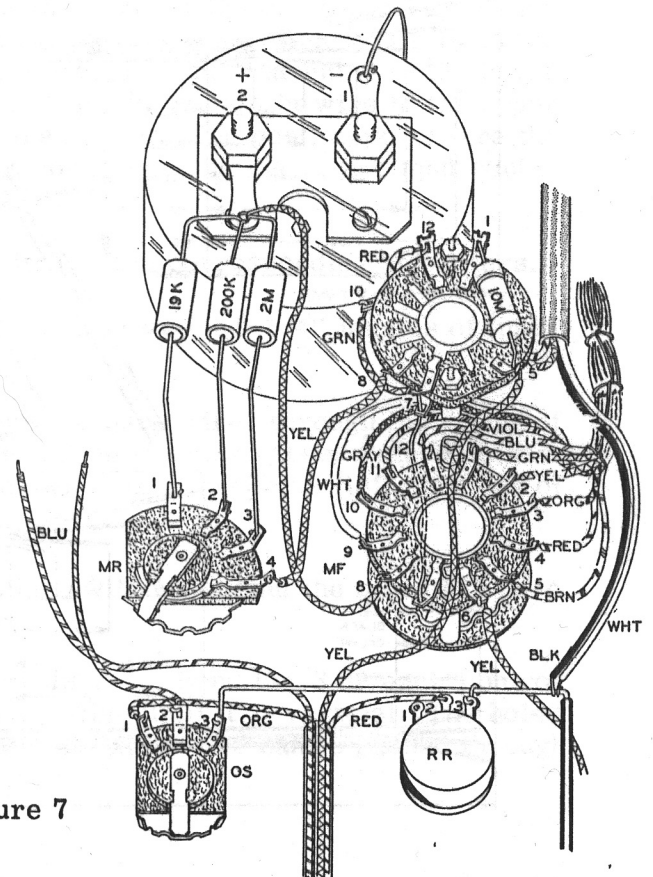

Figure 7
- (✓) Connect the yellow lead to lug 2 on the front deck (nearest panel) of the meter function switch MF (S-1). Refer to Figure 7 for switch wiring detail.
- (✓) There are four binding posts above the meter. The end of the 4-conductor cable with the 3" red lead is connected to these posts. Connect the red lead to M1 (S-1), the black lead to M2 (S-1), the green lead to M3 (S-1) and the white lead to M4 (NS).
- (✓) At the other end of the cable, connect the green lead to lug 10 on the rear deck of the meter function switch MF (S-1). This lug is on the side of the deck toward the panel. Refer to Figure 7 on page 14 for switch wiring detail.
- (✓) Connect a short length of #20 bare wire from lug 7 on the front deck of the meter function switch MF (S-1) to lug 7 on the two sides of the rear deck (S). The wire passes through and is soldered to three lugs.
- (✓) Connect a 10 megohm precision resistor between lug 1 (S-1) and lug 5 (NS) on the rear deck of switch MF.
- (✓) Connect a 19 K $\Omega$  precision resistor from the meter range switch MR, lug 1 (S-1) to the + meter terminal 2 (NS).
- (✓) Connect a 200 K $\Omega$  precision resistor from the meter range switch MR, lug 2 (S-1) to the + meter terminal 2 (NS).
- (✓) Connect a 2 megohm precision resistor from the meter range switch MR, lug 3 (S-1) to the + meter terminal 2 (NS).